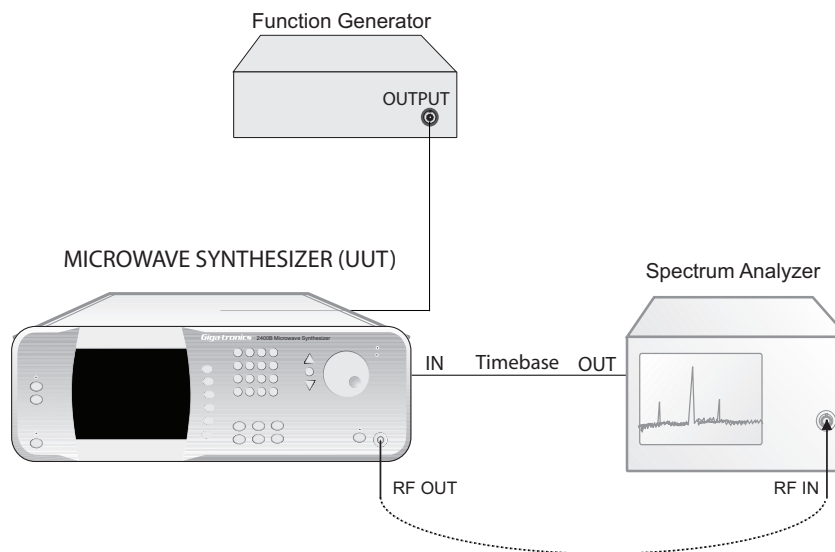

Figure 4-5: Amplitude Modulation Accuracy and Amplitude Modulation Bandwidth Tests
4. Connect the test equipment and UUT as shown in Figure 4-5, connecting the UUT directly to the RF input of the Spectrum Analyzer.
3. Connect the test equipment and UUT as shown in Figure 4-5,